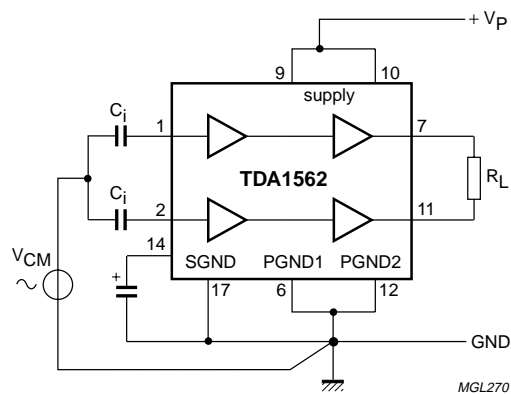

Fig.9 CMRR test setup.
4. Common mode rejection ratio is measured across  $R_L$ ;  $V_{cm} = V_{cm \text{ max.}} = 2 V_{PP}$ . CMMR [dB] = differential gain ( $G_v$ ) + common mode attenuation ( $A_c$ ), (Test setup according Fig. 9; mismatch of input coupling capacitors **excluded**).